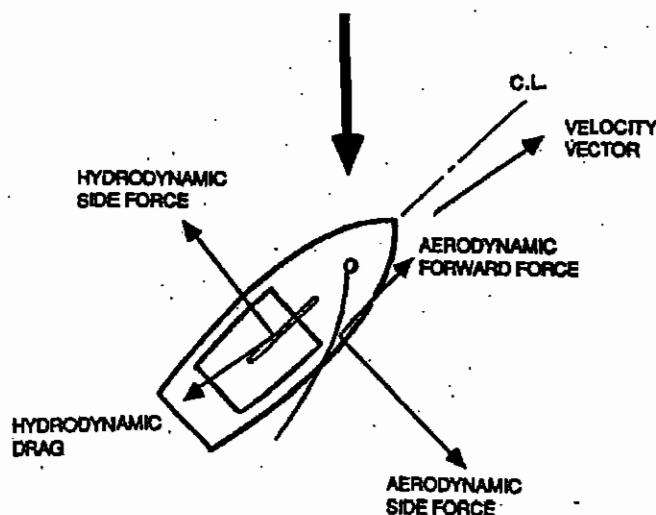
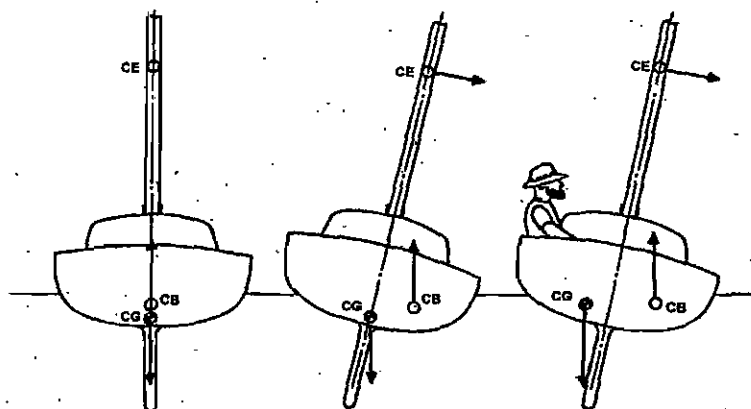

Figure 3-5 Balanced Forces Drive Boat Forward
Figure 3-6 Balanced Forces Control Heel of Boat
So, let us put these forces together and see the result in Figure 3-5. When the boat first starts to sail the forward aerodynamic force exceeds the hydrodynamic drag and the boat speeds up. As the boat accelerates, the hydrodynamic forces increase and when it becomes equal to the aerodynamic force the boat will have reached a constant maximum speed for the conditions of sailing. Under steady state conditions the hydrodynamic side force just balances the aerodynamic side force.
Figure 3-5 is only part of the story. It appears, at least in the two dimensional world, that these forces do indeed balance. But there is more – the hydrodynamic forces shown are essentially horizontal forces in the water while the aerodynamic forces are essentially horizontal in up the air at a height roughly a third of the way up the mast. So, why doesn't the resulting moment shown in the first view in Figure 3-6 tip the boat over?
Before we answer this question, we need to be acquainted with some centers of force. First there is a point above the waterline where the total force of the wind can be said to act. We alluded to this earlier in the chapter for the case of one sail. This is referred to as the Center of Effort (CE) which takes in to account all the sails that may be on a boat as well as all other surfaces above the waterline. Figure 3-6 shows the location of the CE and the aerodynamic side force in the transverse or beam plan of the boat.
Next there is the Center of Gravity (CG) and a point called the Center of Buoyancy (CB). The CB is the single point where the upward force of the water acts on the boat to keep it from sinking. The first view in Figure 3-6 shows a no-wind condition where the buoyancy force balances the gravity force. In the second view some wind is added and the boat heels but the CB moves off the centerline of the boat. This is due primarily to the shape of the hull. If we sum moments about CG, the buoyant moment acts to oppose the heeling moment of the wind.
Now let's consider the primary factors that contribute to this lateral stability. A weighted keel tends to lower the CG and since the CG of the basic boat is on the centerline, for a given amount of heel the moment arm of the CB force is increased. The other factor is illustrated in the third depiction in Figure 3-6 where the location of the crew on the windward side of the boat shifts the total CG to the left and further increases the moment arm of the buoyant force.